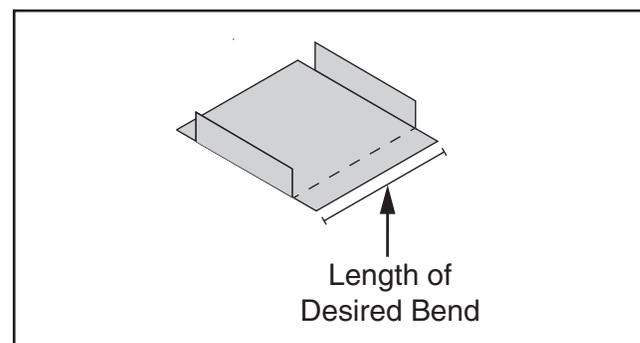

Figure 33. Measuring workpiece for bend.
1. Mark workpiece with location of desired bend and determine length of bend (see **Figure 33**).